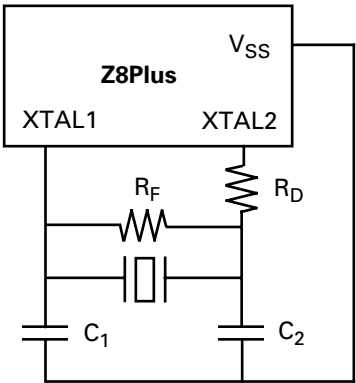
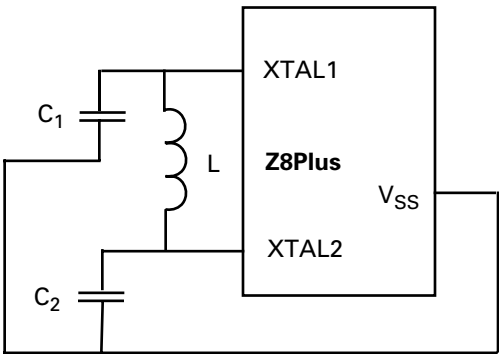
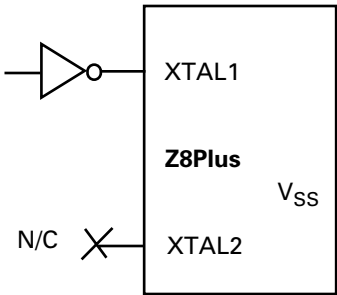

Figure 16. Crystal/Ceramic Resonator Oscillator
Figure 17. LC Clock
Figure 18. External Clock
Crystals and ceramic resonators (Figure 16) should exhibit the following characteristics to ensure proper oscillation:
Depending on the operation frequency, the oscillator may require additional capacitors, C1 and C2, as illustrated in Figure 16 and Figure 17. The capacitance values are dependent on the manufacturer’s crystal specifications.
Figure 16, Figure 17, and Figure 18 recommend that the load capacitor ground trace connect directly to the  $V_{SS}$  (GND) pin of the Z8Plus. This requirement assures that no system noise is injected into the Z8Plus clock. This trace should not be shared with any other components except at the  $V_{SS}$  pin of the Z8Plus.
The Z8Plus oscillator can use an inductor capacitor oscil-lator (LC) network to generate an XTAL clock (Figure 17).